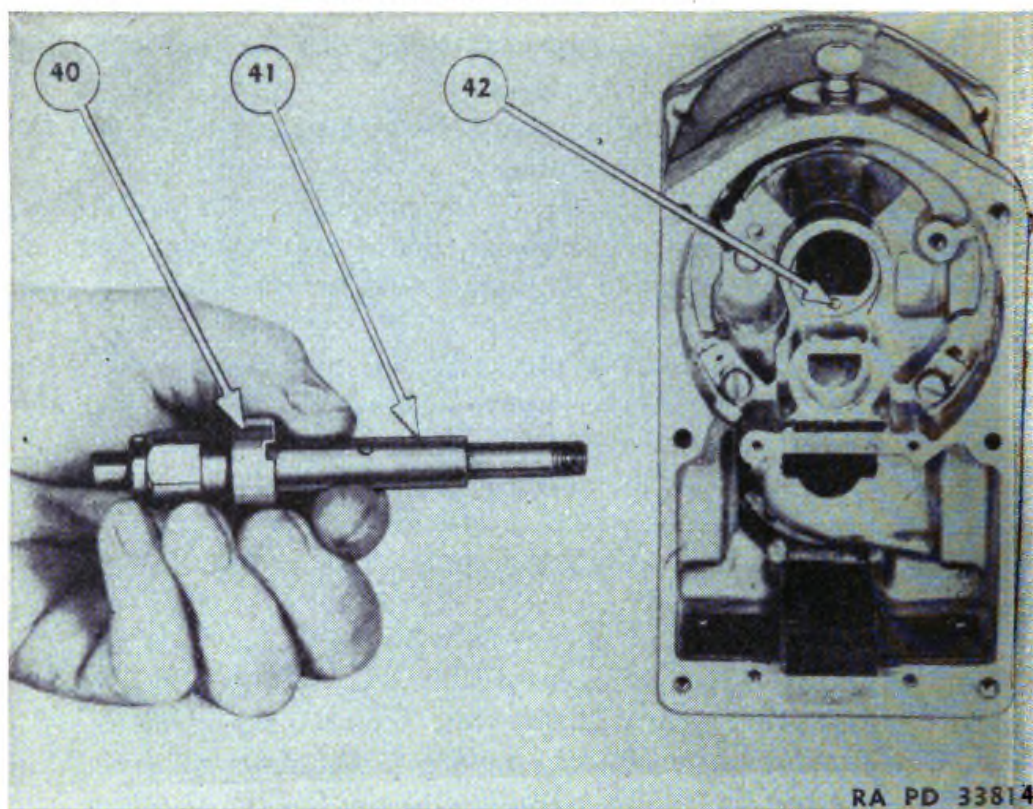

FIGURE 98.—Breaker cam bearing removal.
f. The breaker cam bearing (40) (fig. 98) may be removed after the pin in brass bushing (41) has been driven out. If the cam is scored, replace shaft and cam assembly.
g. Line up slot in the outer race with pin (42) in the housing before pressing the bearings into position.